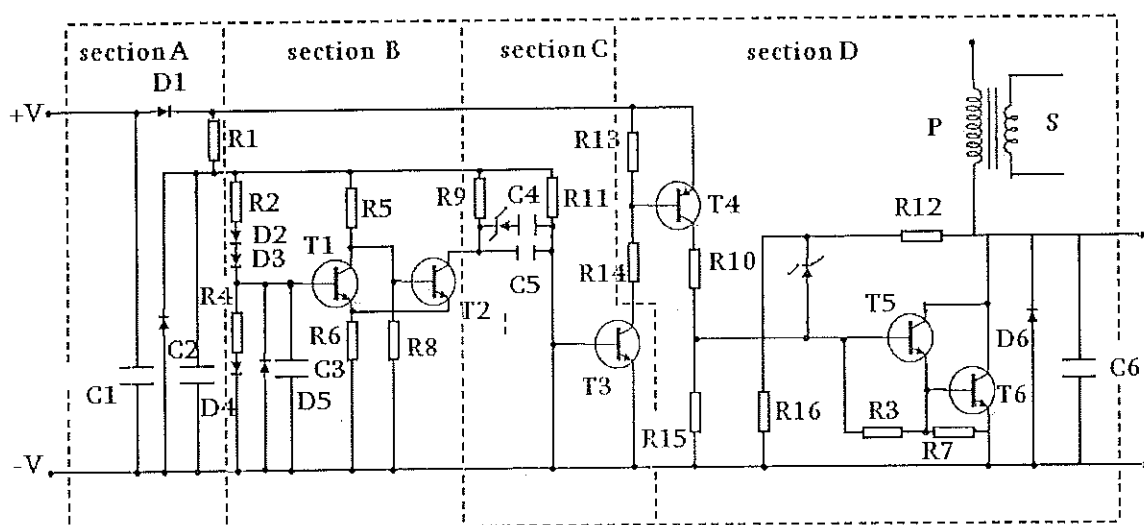

Figure Q1
Figure Q1 shows a complete circuit diagram of an electronic ignition system with magnetic reductor generator.
- iv) State the functional operation of **section B** in figure Q1. Briefly explain the electronic operation of **section B**. [08]
- v) State the functional operation of **section D** in figure Q1. Briefly explain the electronic operation of **section D**. [06]